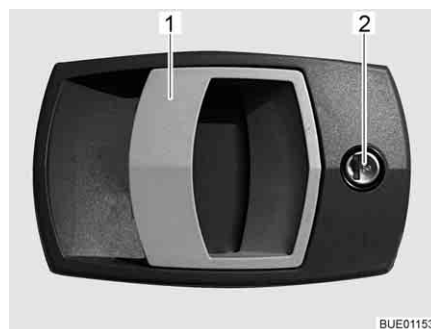

Fig. 41 Door lock of conversion door, outside
- Insert the key into locking cylinder (Fig. 41,2) and turn until the door lock is unlatched.
- Pull on the handle (Fig. 41,1). The door is open.
- Insert the key into locking cylinder (Fig. 41,2) and turn until the door lock is engaged.